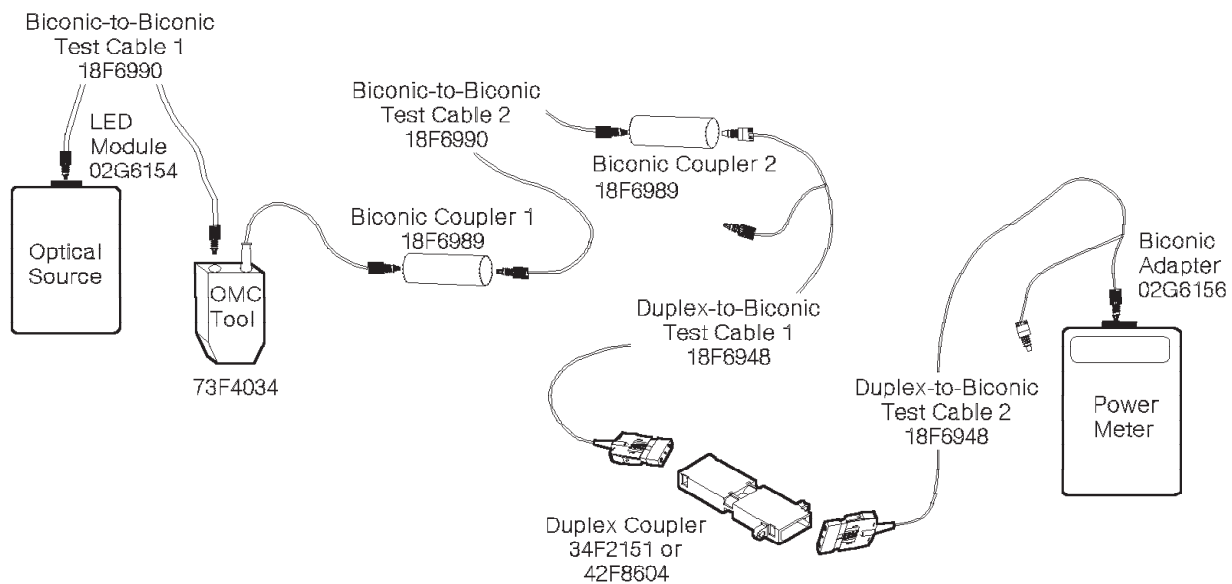

Figure 3-15. Obtaining **P3** for a Multimode Link
2. Make sure all connectors are clean; then assemble the components (see Figure 3-15 on page 3-36).